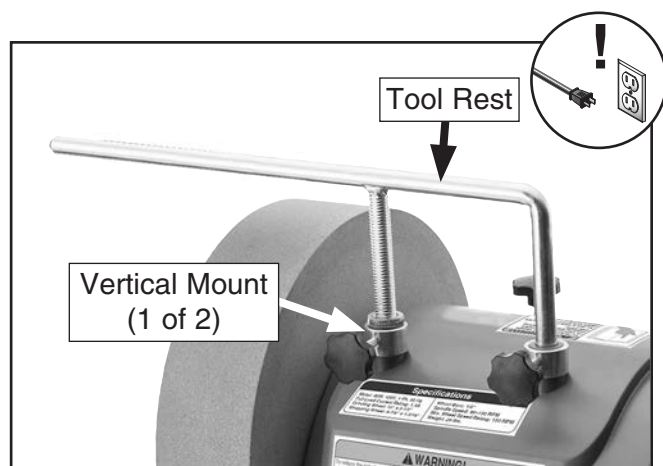

Figure 22. Tool rest installed in vertical mounts.
3. Install tool rest in vertical mounts shown in **Figure 22**. Be sure rest is secure and will not move while grinding.